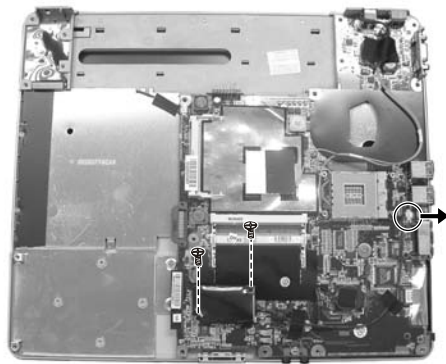

Figure 2-33 Remove the screws and hex nuts
9. To remove the modem card, loosen the two screws and disconnect the cable. (Figure 2-33)